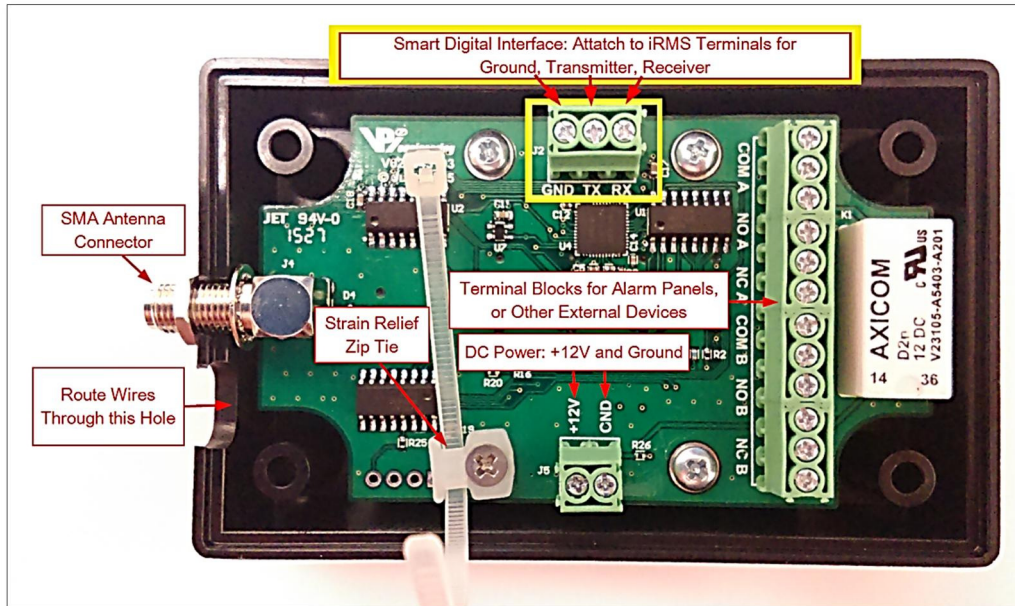

Figure 5 - Smart Digital Interface terminal block
1. On the WOFS Receiver, attach a Ground wire to the Smart Digital Interface (SDI) Terminal Block to the location labeled GND (see yellow boxes in Figure 5).
4. On the WOFS Receiver, attach the Receiver wire to the Smart Interface Terminal Block to the location labeled RX (see previous Figure 5).
6. On the WOFS Receiver, attach the Transmitter wire to the Smart Interface Terminal Block to the location labeled TX (see previous Figure 5).